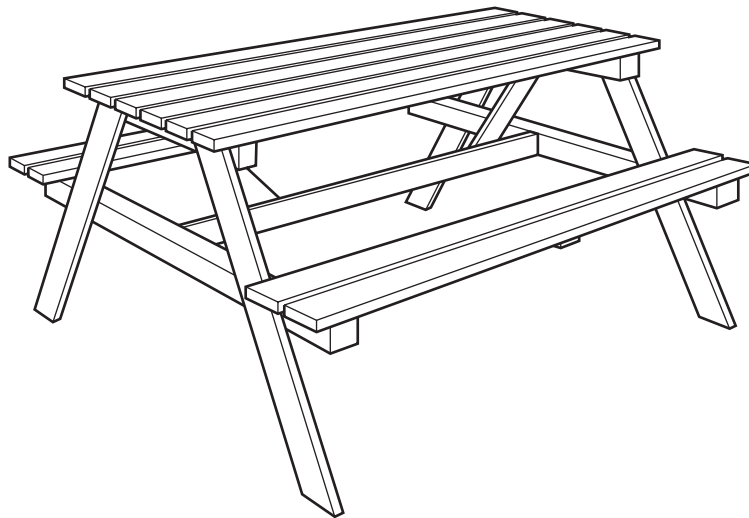

Fig. 5
- 8 Fig. 5 shows a picnic table made from hardwood.